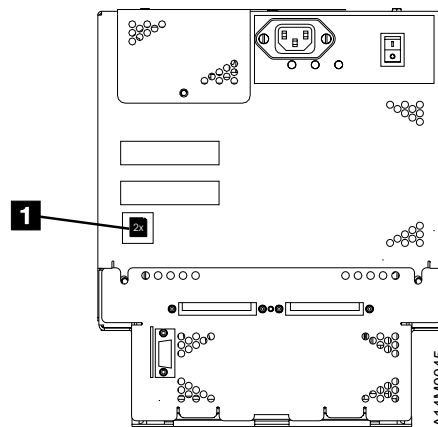

Figure 9. Label Attachment to Rear of 3590E Drive
- \_\_\_ 9. Install the 2X label (PN 34L2660) **1** next to the Magstar Model label. Refer to Figure 9.